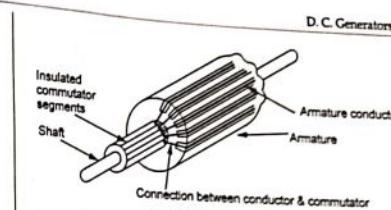

Fig. 7.3.4 Commutator
• Each commutator segment is connected to the armature conductor by means of copper lug or strip. This construction is shown in the Fig. 7.3.4